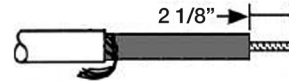

Fig. 4 - Expose Conductor
- B. Measure 2 1/8" down from the end of the cable and remove shield and insulation to expose bare conductor. Cut squarely making sure not to nick the conductor. See Figure 4.